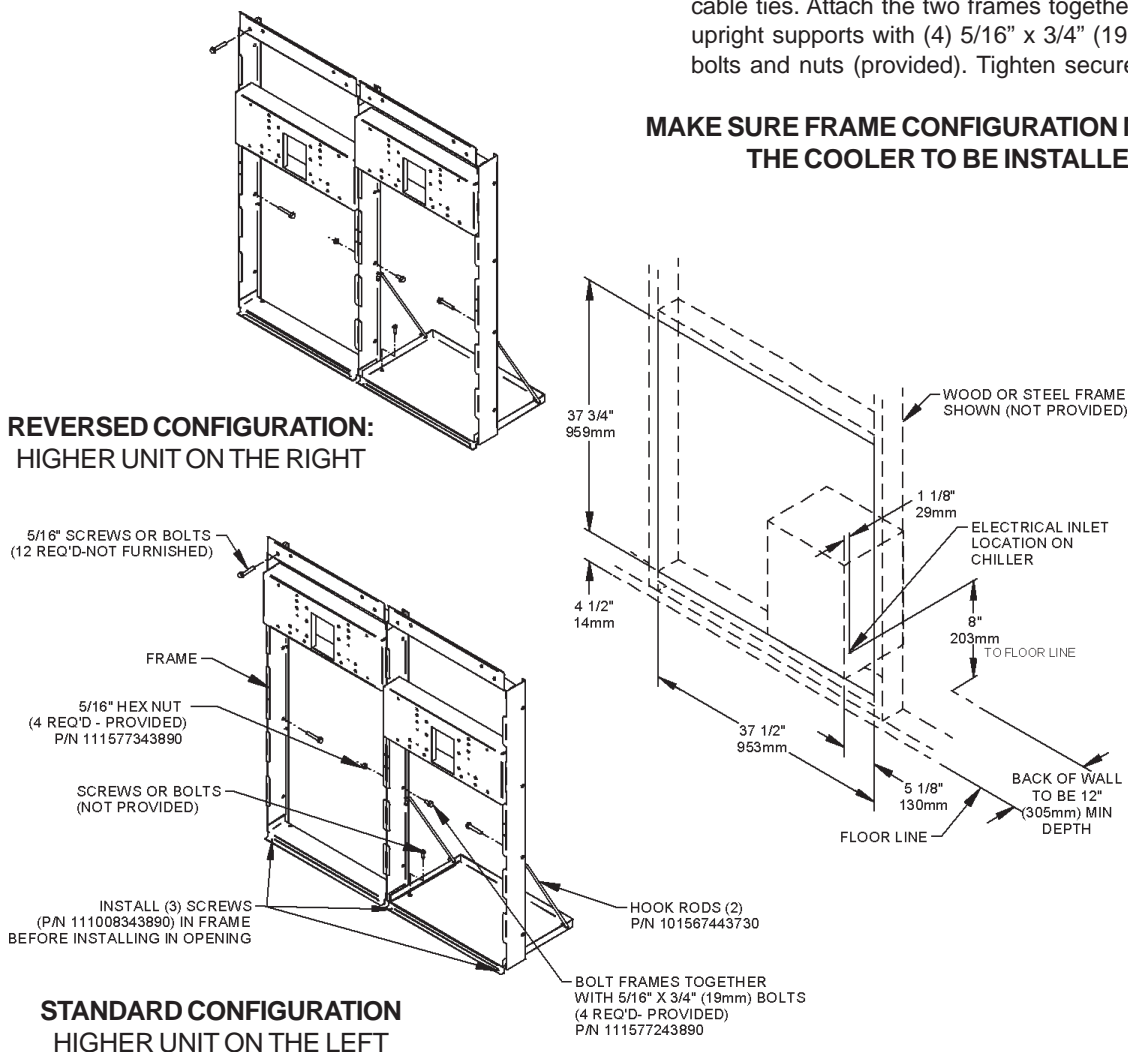

Figure 6 – Rough-In Assembly
1. **Cut a rectangular wall opening** 37-1/2" (953 mm) W x 37-3/4" (959 mm) H and 4-1/2" (114 mm) above the floor line (see Figure 6). The dimensions are required to obtain proper rim and bubbler heights for compliance with ANSI standard A117.1.